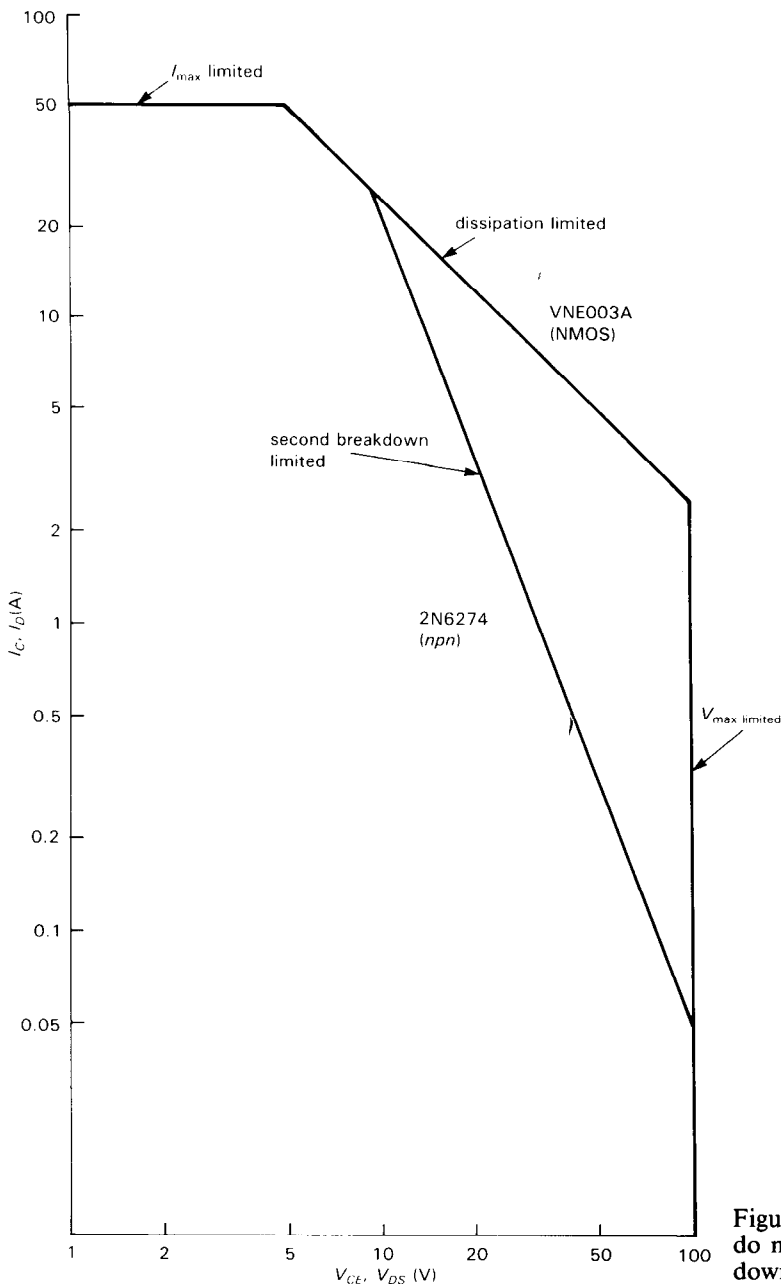

Figure 3.66. Power MOSFETs do not suffer from second breakdown.
these junction hot spots entirely. MOSFETs have no second breakdown, and their safe operating area (SOA) is limited only by power dissipation (see Fig. 3.66, where we’ve compared the SOAs of an *npn* and an NMOS power transistor of the same I_{max} , V_{max} , and P_{diss}). For the same reason, MOSFET power amplifiers don’t have the nasty runaway tendencies that we’ve all grown to love in bipolar transistors (see Section 2.15), and as an added bonus, power MOSFETs can be paralleled without the current-equalizing “emitter-ballasting” resistors that are necessary with bipolar transistors (see Section 6.07).
□ **MOSFETs versus BJTs as high-current switches.** Power MOSFETs are attractive alternatives to conventional power BJTs most of the time. They currently cost somewhat more, for the same capability; but they're simpler to drive, and they don't suffer from second breakdown and consequently reduced safe-operating-area (SOA) constraints (Fig. 3.66).